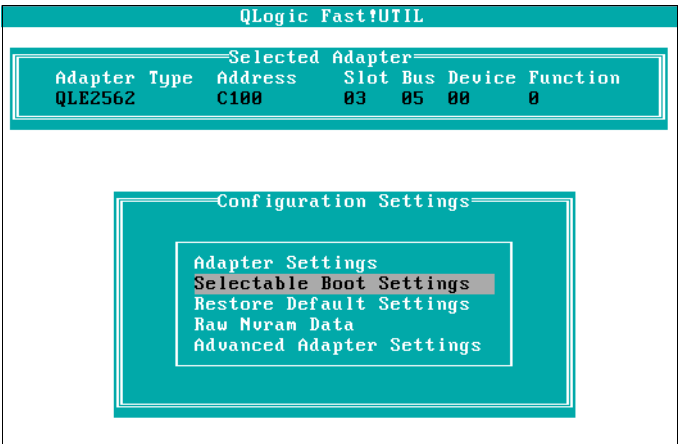

Figure 3-19 Selectable Boot Settings
10. Press the <Esc> key to back up one menu. Next, select **Selectable Boot Settings**, as shown in Figure 3-19.